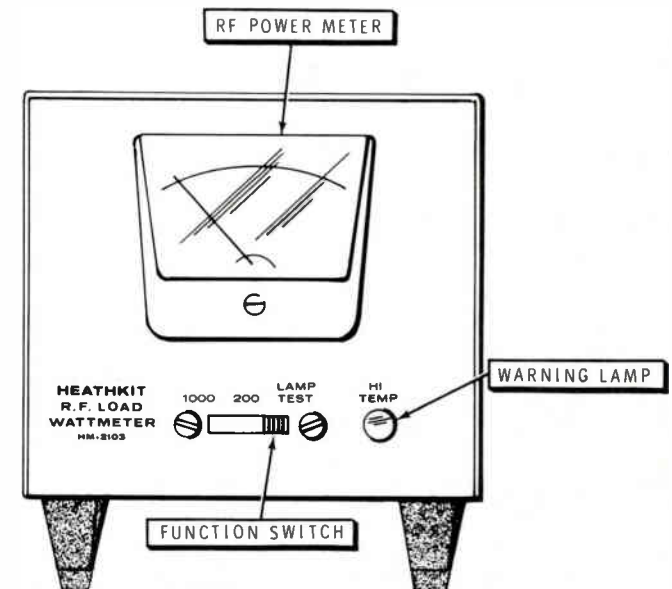

Figure 3
- (✓) Set the FUNCTION switch to LAMP TEST (see Figure 3). The lamp should light, which indicates that circuit is working correctly. Leave the switch in this position for the following steps.